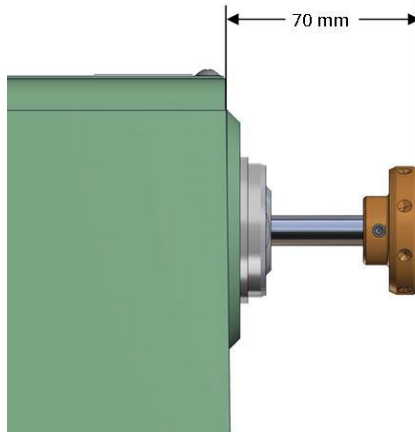

Figure 4.8.6
6. Rotate the Spindle and Rotary Disk forward or backward as necessary to locate the flat face of the Rotary Disk 70 mm away from the machine base. This will ensure that the Rotary Disk is initially in the correct position. See Figure 4.8.6 below.